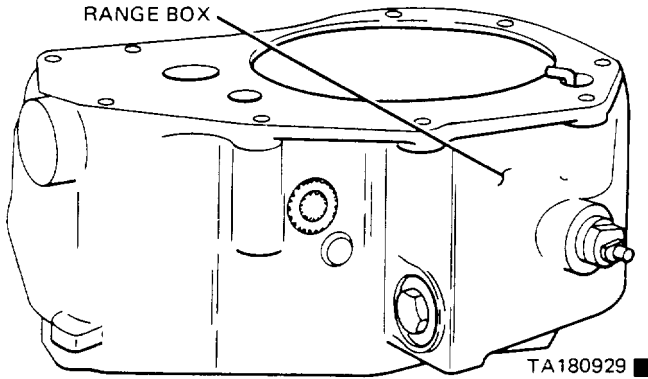

Figure 17-15 Range Box Positioned for Assembly.
a. Place the range box on blocks with the front (input) side down (figure 17-15).